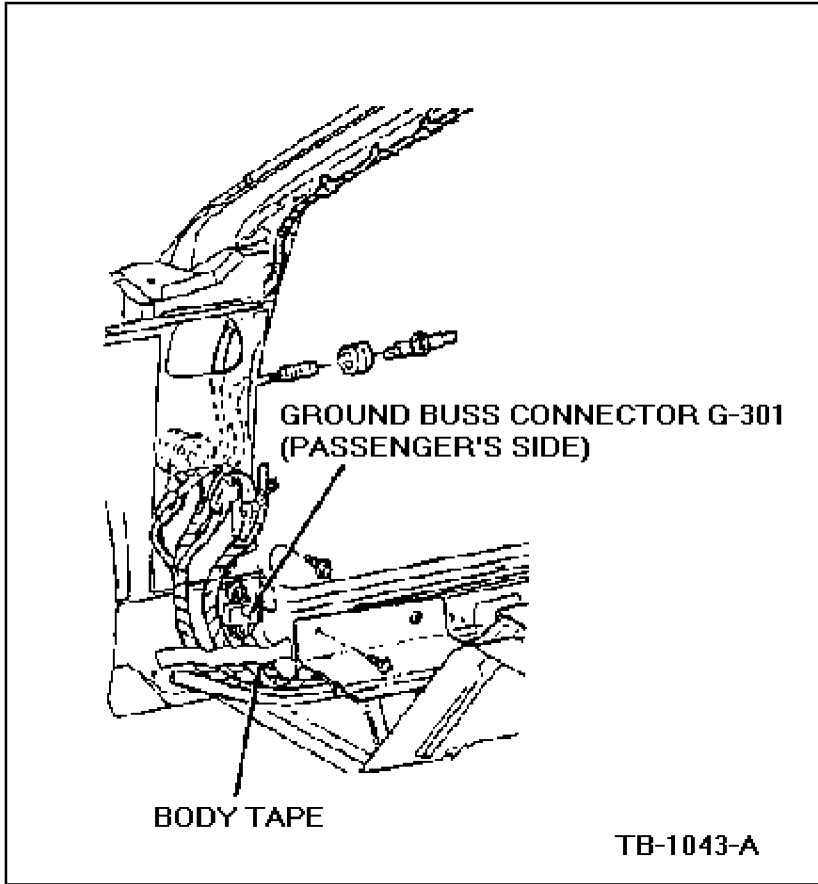

Figure 1 - Article 89-6-6
1. Using the 1989 Thunderbird/Cougar EVTm, pages 16 through 19, determine which ground buss connector (G-300 or G-301) requires service, Figures 1 and 2.
8. Install a 4-6 inch piece of body tape on the wire harness to hold it to the cowl panel, Figures 1 and 2.